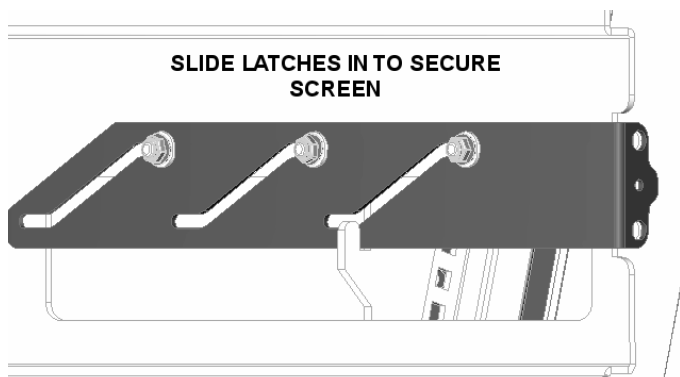

Figure 13. Slide Latches In
2. Secure the display by sliding the latches, one on each side, inward (see Figure 13).